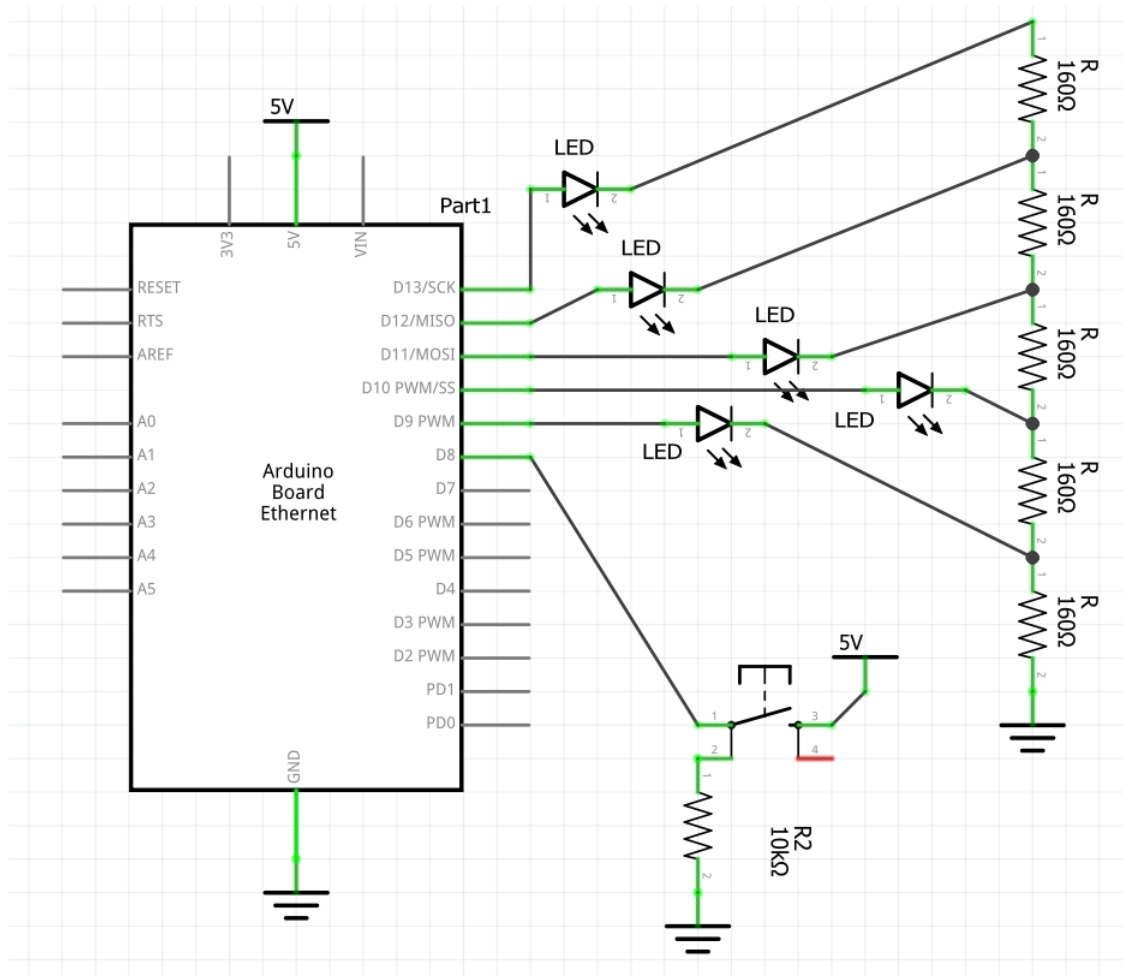

Figure 2: Part 1 schematic
For the button circuit, we attached the normally open terminal to pin 8 on the Arduino to be used as an input and a 10k ohm resistor to ground as seen in figure 2. When not pressed, this is the only path to provide power to the pin, ensuring the pin will be tied low. The other terminal is connected to our 5V supply from the Arduino. This means that when we press the button the voltage will take the path of least resistance, going to the pin instead of ground because of the 10K Ohm resistor impeding it. This will give the input pin a state of high when read by the Arduino, allowing us to detect button presses.
1.3 Figure 2: Schematic Part 1